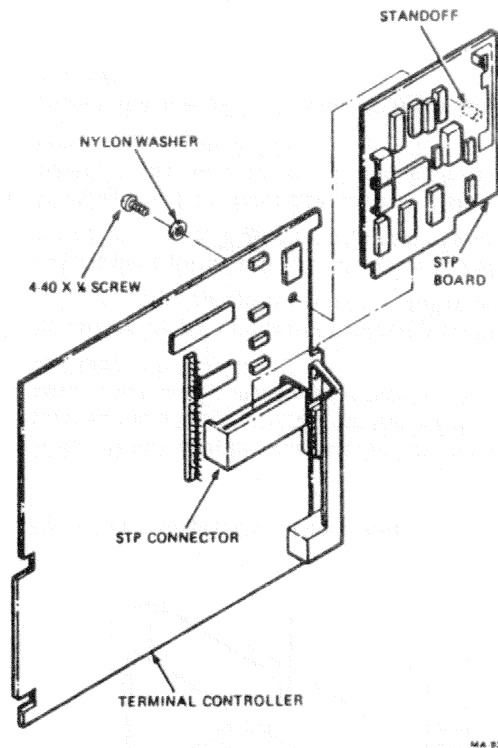

Figure 6-9 Installing STP Board
13. Install the STP paddle board in the STP connector. Lift the 16-pin cable slightly if needed to clear the spacer when inserting the STP board. Attach it to the terminal controller board with the supplied screw and washer (Figure 6-9).